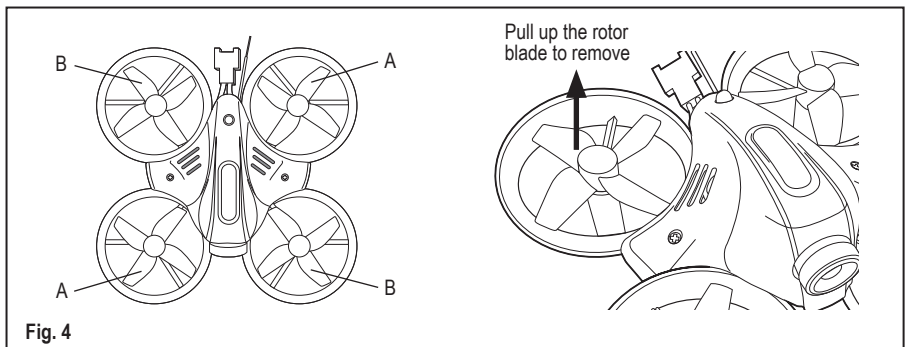

Fig. 4
- These two types (marked A and B in Fig. 4) of rotors use blades of opposite types since each of the two pairs of blades is designed to work in a different direction of turn.